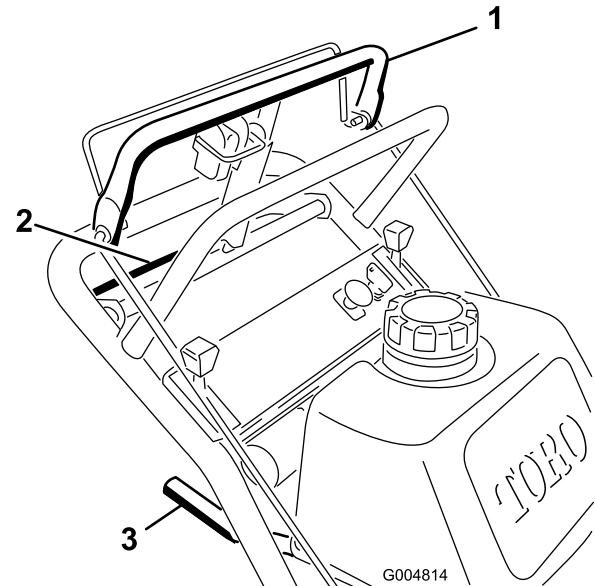
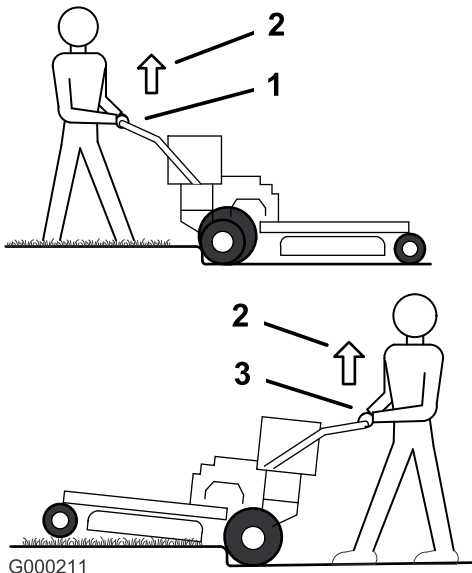

Figure 9
Figure 10
1. To go forward, move the shift lever to a forward gear (Figure 9).
3. Slowly press on the upper control bar to move forward (Figure 9).
To go straight, apply equal pressure to both ends of the upper control bar (Figure 9).
To turn, release pressure on the upper control bar side in the direction you want to turn (Figure 9).
3. Slowly squeeze the lower control bar and lower handle together to move rearward (Figure 9).
3. Drive machine until the castor wheels contact curb (Figure 10).
4. Lift the front of the machine by pushing down on the lower handle (Figure 10).
5. Drive the machine until drive wheels contact the curb (Figure 10).
6. Lower the front of the machine (Figure 10).
7. At the same time engage the lower control bar and lift up on the lower handle to drive over the curb (Figure 9 and Figure 10).
3. Drive the machine until drive wheels contact curb (Figure 10).
4. At the same time engage lower control bar and lift up on the lower handle (Figure 9 and Figure 10).